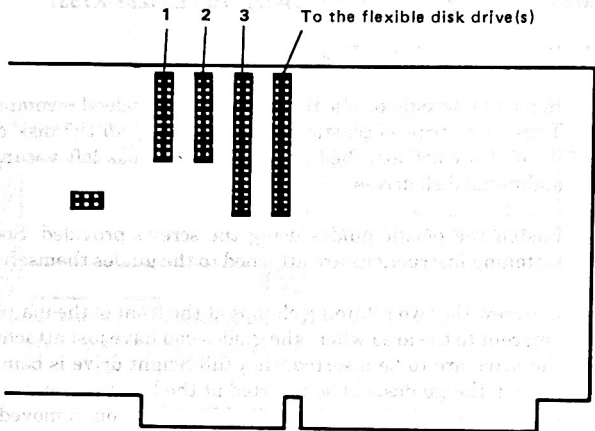

Figure 2 K753-1
7. If this is the first or only hard disk unit to be installed, connect the remote end of the cable band already connected to the disk controller board at location 3 (Figure 2 K753-1) to the edge connector at the back of the drive indicated in the separate kit description.
8. An additional cable is required (3299-K757). Connect one end of this cable to location 2 (first hard disk unit) or location 1 (second hard disk unit) on the disk controller board (see Figure 2 K753-1). Connect the drive end of this cable band as shown in the separate kit description.